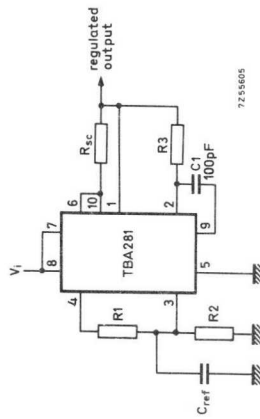
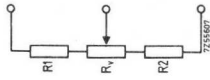

Fig. 1 1)2)
Fig. 3 2)
(for testcircuit see figs. 1, 2 and 3 on page 5)
- 2) For adjustable output voltage replace R_1/R_2 in fig. 1 and 2 with divider circuit shown in fig. 3.
Outputs from +2 V to +7 V (fig. 1)
| positive output voltage (V) | figure | fixed output ± 5% | | adjustable output ¹⁾ ± 10% (see fig. 3) | | |
¹⁾ For adjustable output voltage replace R₁/R₂ in fig. 1 and 2 with divider circuit shown in fig. 3 (on page 5).